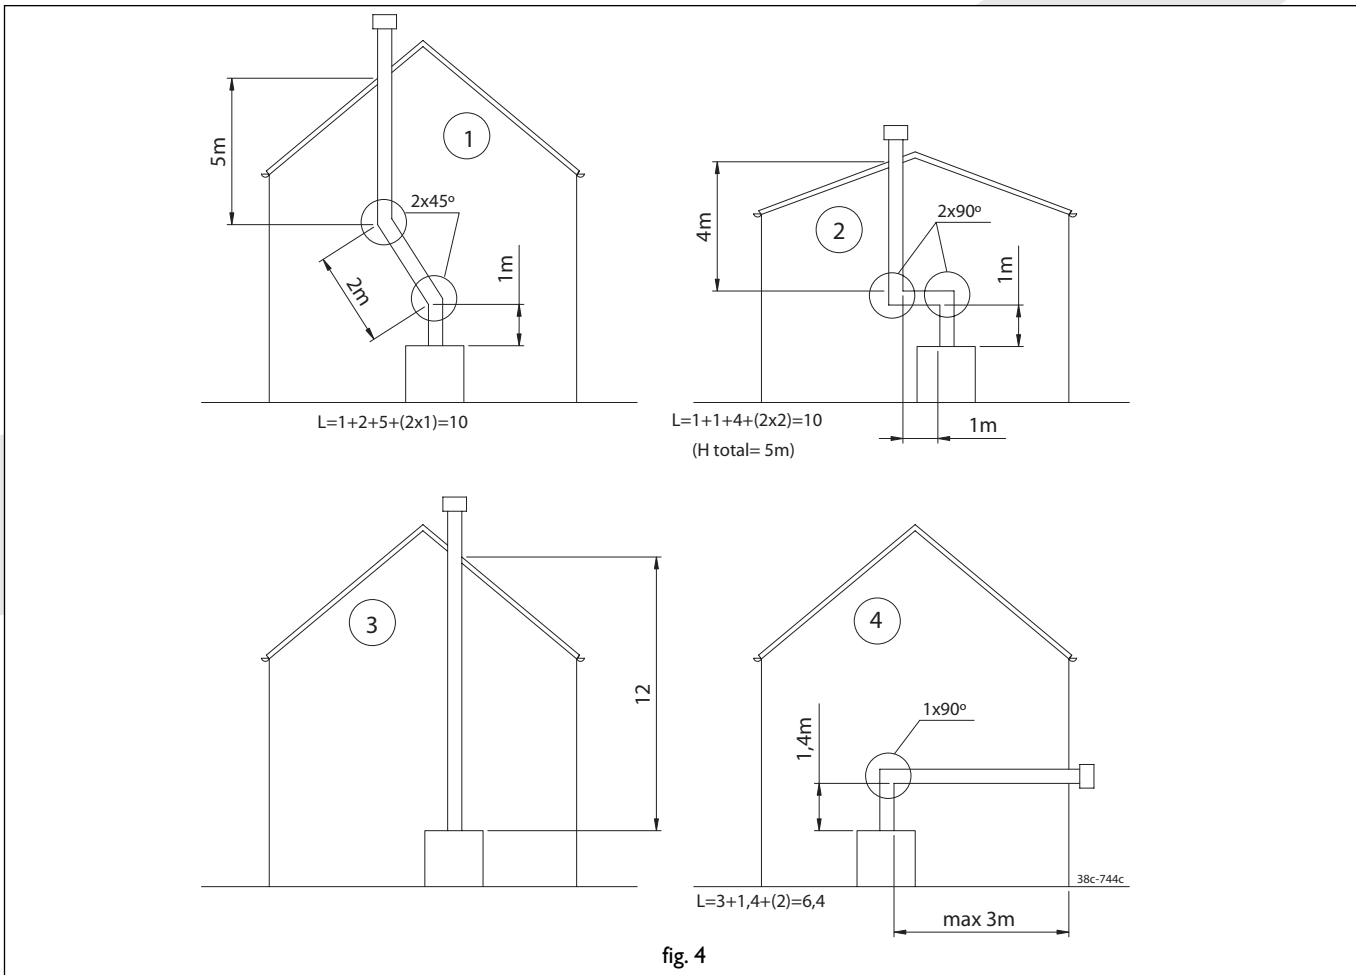

fig. 4
Possible connections (fig. 4)
- The first metre of pipe should always be fitted vertically, except example 4 in fig. 4.
The maximum total length is the sum of the pipe lengths plus the substitute length for the bends (see the four examples in fig. 4).
- Select the required connection from the options shown in figure 4.
Fig. 4 illustrates how to calculate the total lengths of pipe.